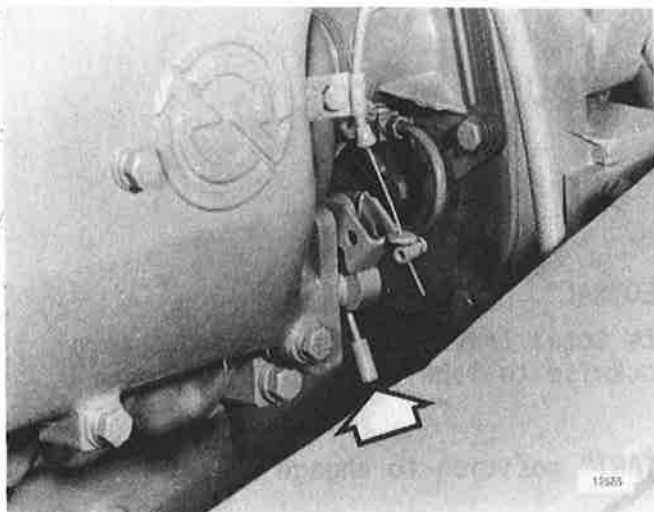
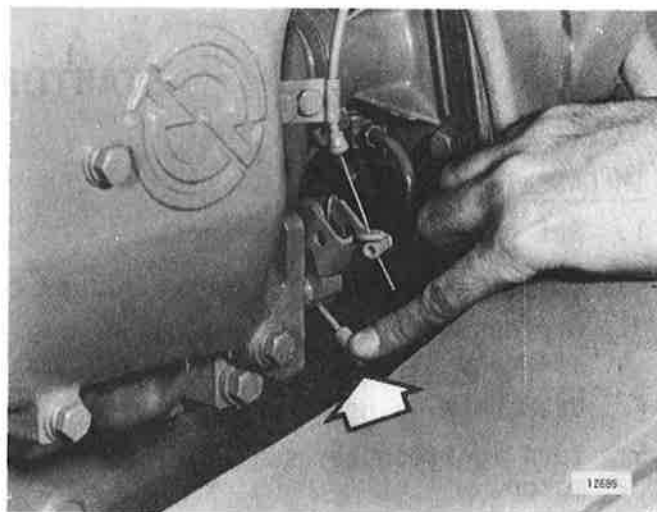

Figure 12
Figure 13
4. Push engine shutdown cable all the way in. Make sure emergency shutdown cable has not been activated (See Figure 12). Reset if necessary (See Figure 13).
If the engine fails to start after four attempts, an inspection should be made to determine the cause. Perhaps at the last shutdown operation the emergency cable was pulled. If so, the trap on the intake manifold will have to be reset (See Figure 13).